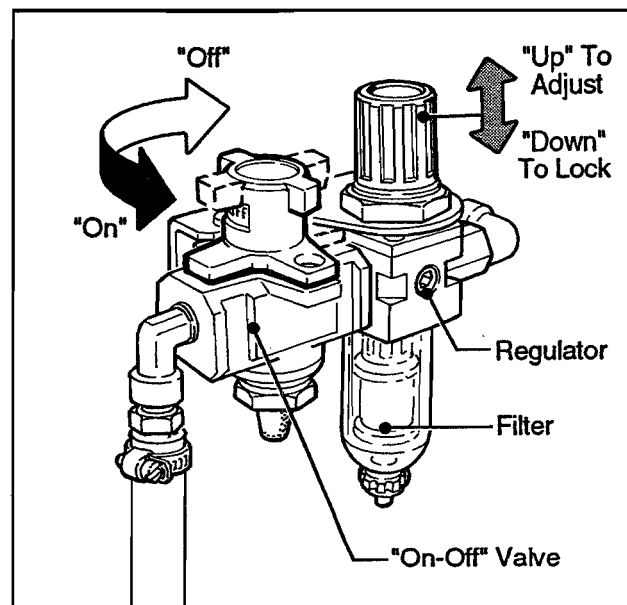

Figure 3-3 – "On/Off" Valve/Regulator/Filter
- ② **Main Air "On/Off" Valve/Pressure Regulator/Filter – Figure 3-3**